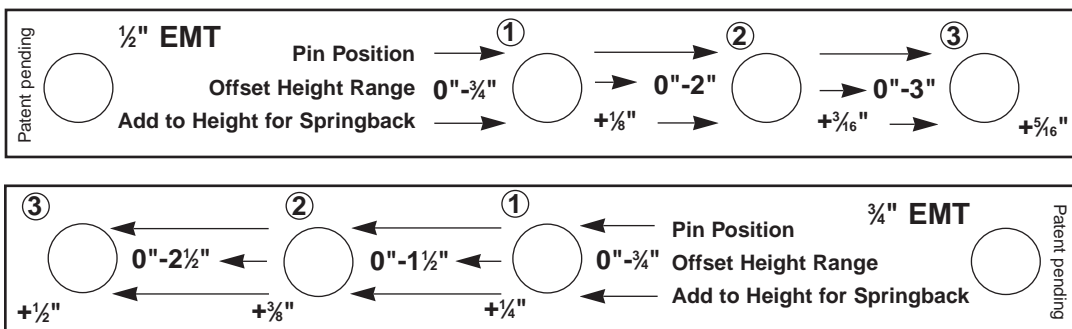

Figure 5
2. Determine the size and type of conduit, and the offset height required. Review the bracket decals to locate the correct side of the frame to use. See Figure 5.